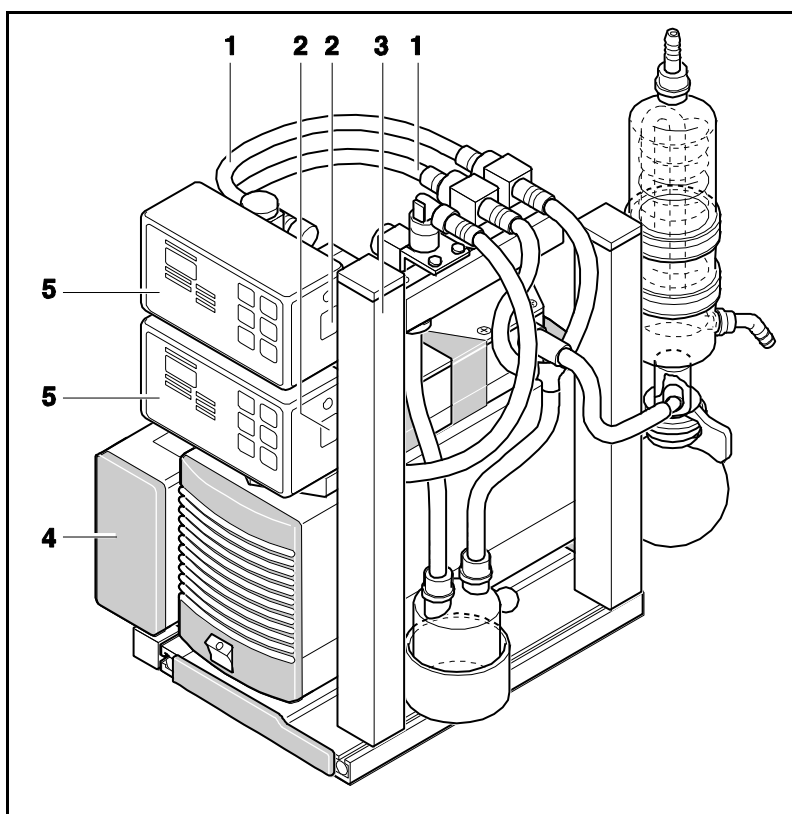

Fig. 8: Vacuum controller (shown: LABOPORT system SCC with pump UN840.3FTP as example)
1. Slide the electrical supply unit (see fig. 8/4) with both tightening nuts into the baseplate's lateral slotted bar.
1. Slide the support's attachment part (see fig. 8/3) into the baseplate's lateral, upward-pointing slotted bar.